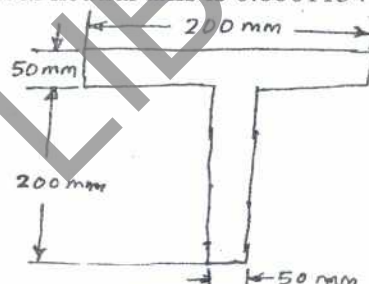

Fig.Q6(b)
- b. A T – shaped cross – section of a beam in fig.Q6(b) is subjected to a vertical shear force of 100kN. Calculate the shear stress at the neutral axis and at the junction of the web and the flange. M.I. about the horizontal neutral axis is 0.0001134 m^4 . (10 Marks)